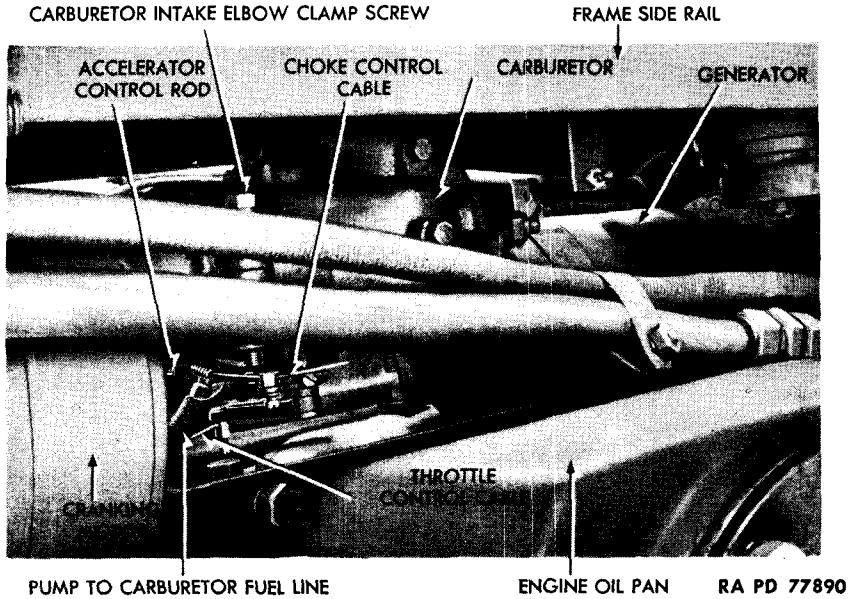

Figure 30 - Carburetor Connections
(1) **DISCONNECT CONTROLS FROM CARBURETOR** (fig. 30). Remove splash shield from under right-hand front fender. Disconnect choke control cable, throttle control cable, and accelerator control rod from carburetor.
(2) **DISCONNECT AIR CLEANER FROM CARBURETOR** (fig. 30). From under truck, loosen carburetor intake elbow clamp screw nut. Disengage elbow from carburetor.
(3) **DISCONNECT LINES FROM CARBURETOR** (fig. 30). Working through splash shield opening, disconnect pump to carburetor fuel line from its fitting on carburetor. Disconnect carburetor to manifold suction line (fig. 29) from its fitting on carburetor.
(3) **CONNECT CONTROLS TO CARBURETOR** (fig. 30). Push in choke control on dash, open carburetor air shutter or choke valve, and attach choke control cable to air shutter lever. Attach throttle control cable to carburetor throttle lever. Be sure throttle is closed when throttle control on dash is in. Connect accelerator control rod to throttle lever.
(4) **CONNECT AIR CLEANER** (fig. 30). Position carburetor intake elbow on rear of carburetor, and tighten intake elbow clamp screw nut.